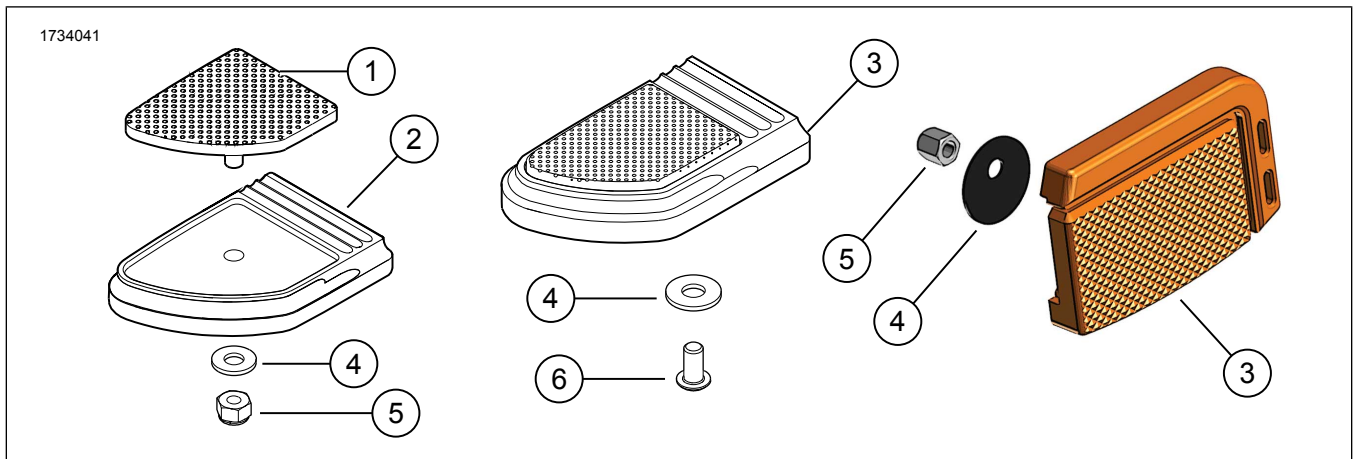

Figure 1. Kit Contents: Brake Pedal Pad Kit
1. Figure 1 Align **new** brake pedal pad (1) with recess in trim cover (2).
3. Install washer (4) onto threaded stud.
4. Install 1/4-20 hex locknut (5) onto threaded stud. Tighten. Torque: 10.9 N·m (8 ft-lbs)
1. Figure 1 Align **new** brake pedal assembly (3) with vehicle foot brake lever.
2. Apply threadlocker to screw (6).